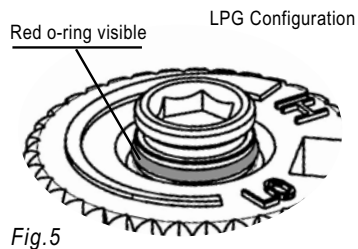

Fig.5
- 19) Verify that if the conversion is from NG to LPG, the screw must be re-assembled with the red o-ring visible (Fig. 5).